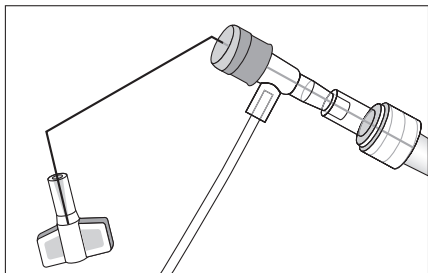

Figure 3
9. If provided with a braided placement wire that includes a handle, kink proximal end of placement wire at side-port connector to minimize risk of placement wire exiting distal tip of catheter during insertion (refer to Figure 3).